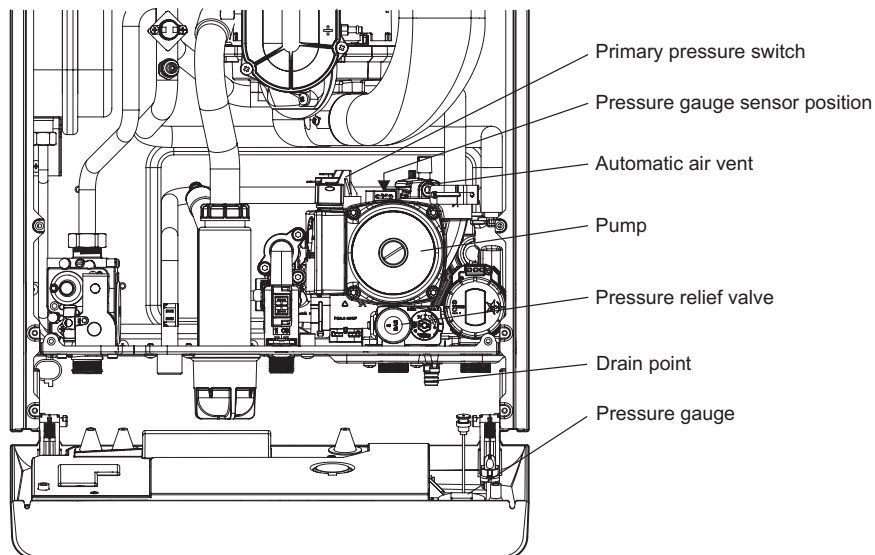

Fig. 34
1. The DHW sensor is positioned in the hot water outlet pipe to the left of the flow switch, see Fig. 34. Unplug the two connections and unclip the sensor from the pipe.
7.20 PRESSURE GAUGE - Fig. 34
7.22 AUTOMATIC AIR VENT - Fig. 34
7.23 PUMP - Fig. 34
2. Connect the plug to the new head. Ensure the pump is set to maximum (3) and re-assemble in reverse order.
7.24 PRIMARY PRESSURE SWITCH - Fig. 34
7.25 PRESSURE RELIEF VALVE - Fig. 34